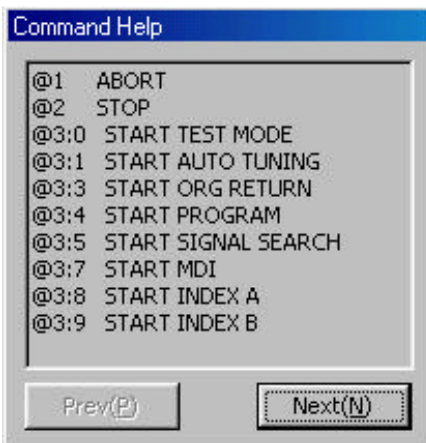

Figure 7.15 “Command Help” dialog box
(6) Command help
In the “Terminal” menu, click “*Command Help (C)*” under “List” to display the “Command Help” dialog box (see Figure 7.15).